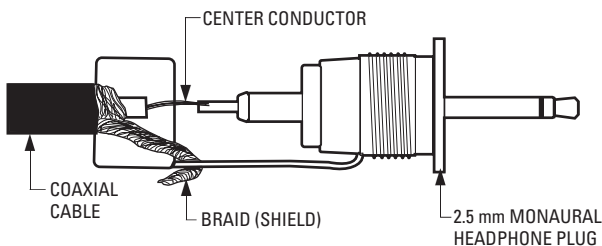

Figure 15. How to Connect the 2.5 mm Monaural Headphone Plug to the Coaxial Cable
2. Refer to Figure 15 and do the following to attach the 2.5 mm monaural plug to the other end of the coaxial cable: